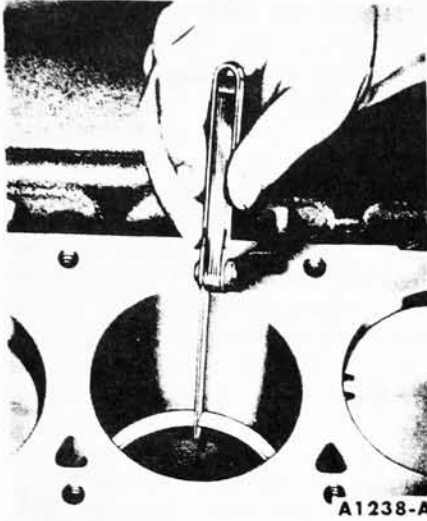

FIG. 76—Piston Ring Gap
5. Measure the gap between the ends of the ring with a feeler gauge (Fig. 76). If the gap is less than the recommended lower limit, try another ring set.